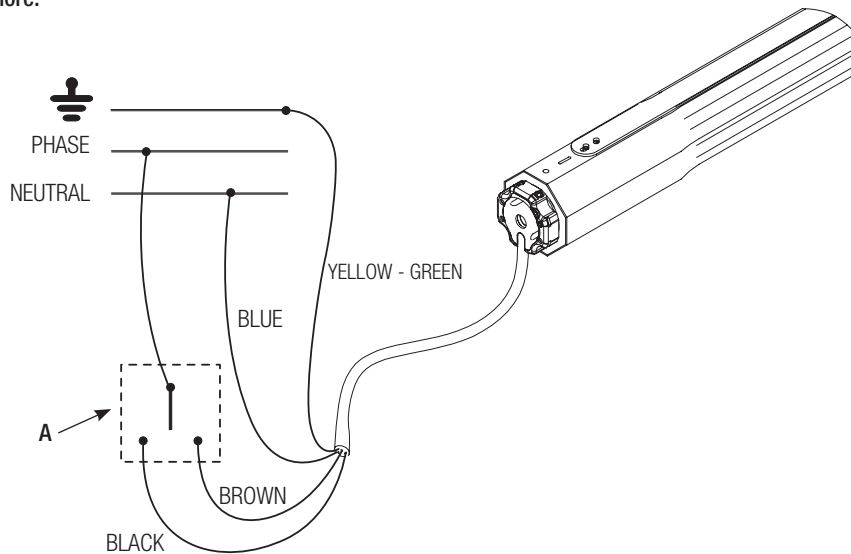

Fig. 17
1. Connect the wires of the electro-roller to the double button with mechanical interlock as shown in the lay-out of figure 17
2. Connect the double button with mechanical interlock to the power supply line as shown in Fig. 17.
5. If the rotation direction is incorrect, cut power and - in the double button with mechanical interlock (Fig. 17 ref. A) - change over the black wire with the brown wire and check if operation is correct.